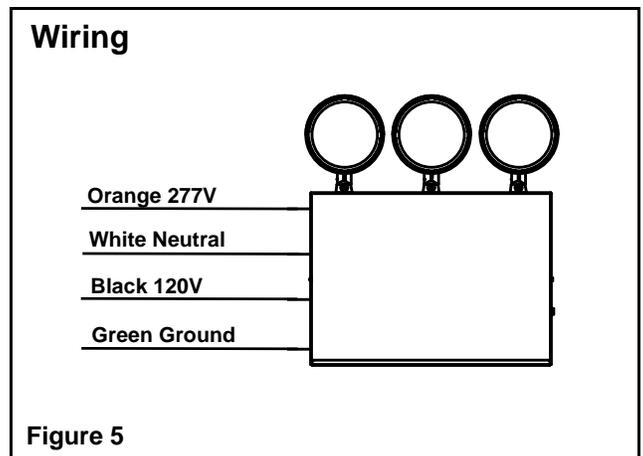

Figure 5
7. Our system can accept input voltages of 120 VAC or 277 VAC. Therefore, connect the black (120 VAC) or orange (277 VAC) and white (common) leads to the building utility. Connect the green ground wire to the service ground (see figure 5).
8. Our system can accept input voltages of 120 VAC or 277 VAC. Therefore, connect the black (120 VAC) or orange (277 VAC) and white (common) leads to the building utility. Connect the green ground wire to the service ground (see figure 5).